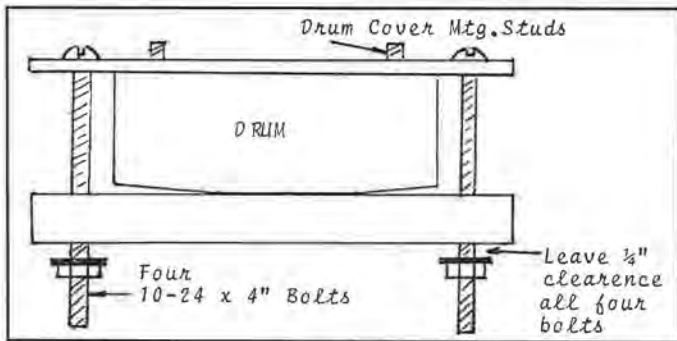

Figure 2.
*Step 2.* Assemble the clamp with the nuts and washers on the wood side. (See Figure 2.)